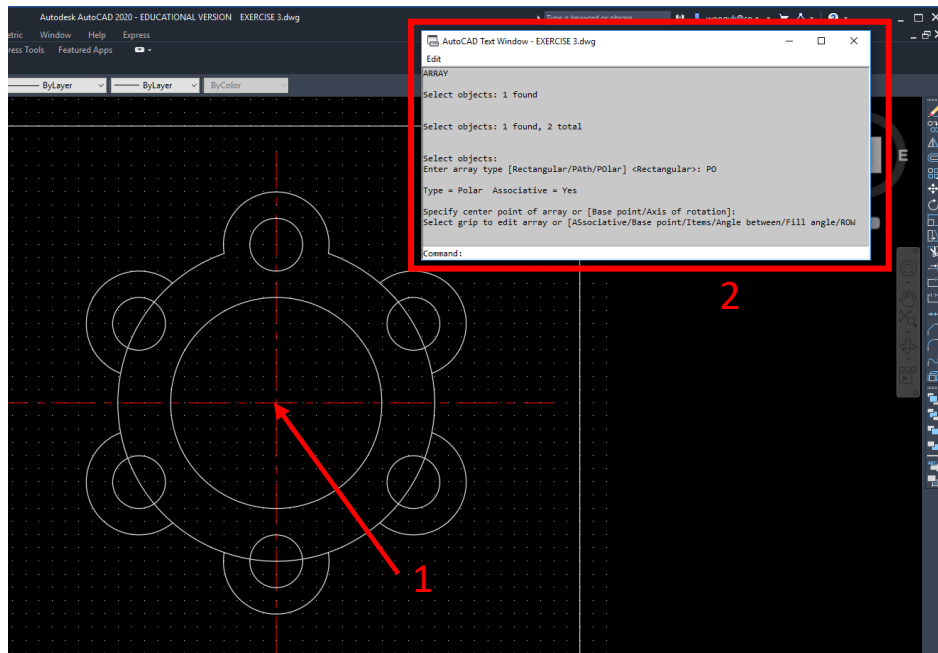

Fig 27
- xxiv. Fig 27 the steps **(2)** and the polar array of 6 objects